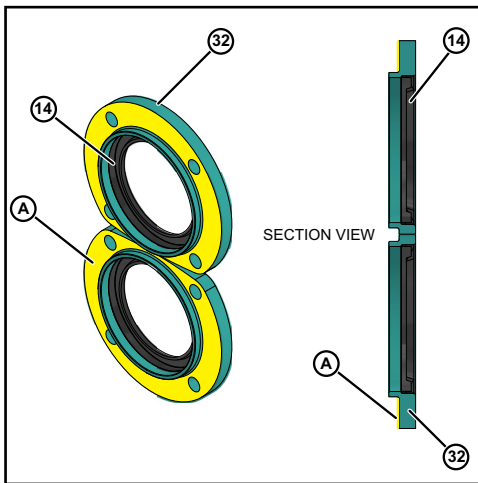

Figure 58 - Install Bearing Retainer
17. Lubricate the seal lips (14) and install the grease seals in the bearing retainers (32) (compression spring on inside).
18. Coat the retainer flanges with silicone sealant (Figure 58, item A). (Gore-Tex® sealing tape can be used on silicone free models.) The grease seal item 14) will be flush with the front of the bearing retainer. On 030 models, the grease seal will be against the step on the inside diameter of the retainer.